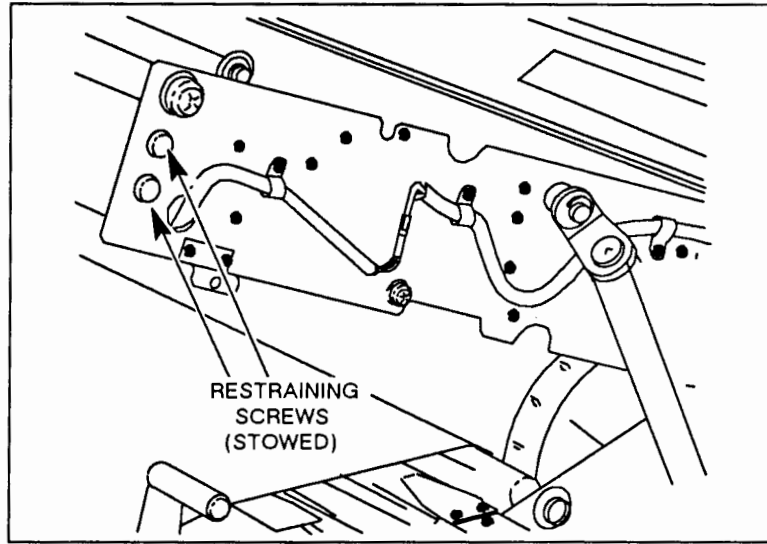

Figure 2-5. Restraining Screws (Stowed)
- j. See Figure 2-5. Stow the restraining screws removed in steps "h." and "i." in the vacant holes at the forward sides of the upper frame, and screw them down securely.